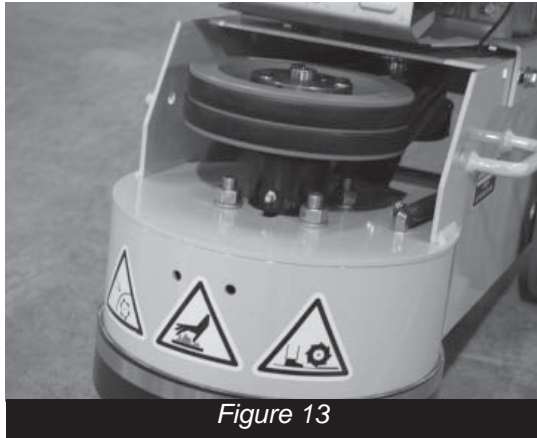

Figure 13
- Remove belt cover to expose belts. (Figure 13)